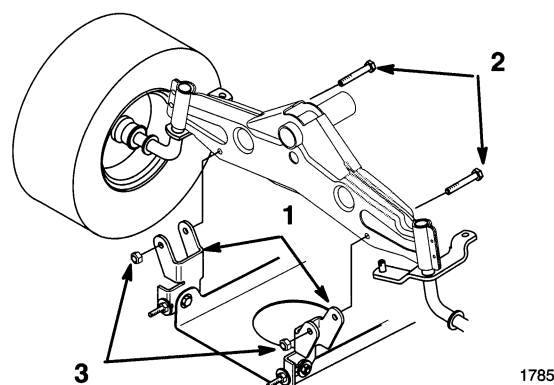

Figure 5
4. Install the mower pivot mount brackets onto the front axle with bolts and lock nuts (Fig. 5).